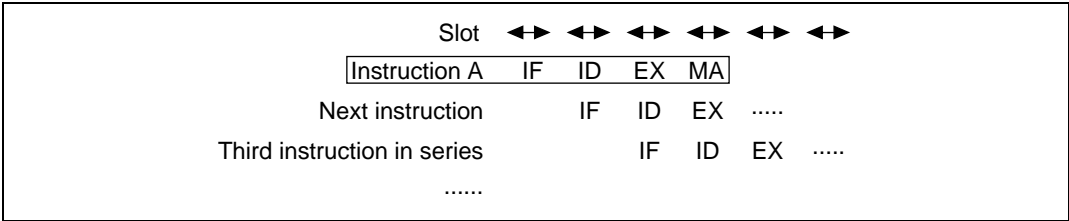

Figure 10.24 Memory Store Instructions Pipeline
The pipeline has four stages: IF, ID, EX, and MA (figure 10.24). Data is not returned to the register so there is no WB stage. See section 10.2.1, Contention between Instruction Fetch (IF) and Memory Access (MA), with reference to contention between the MA and IF stages of these instructions.
(4) Memory Store Instruction (Pre-decrement)